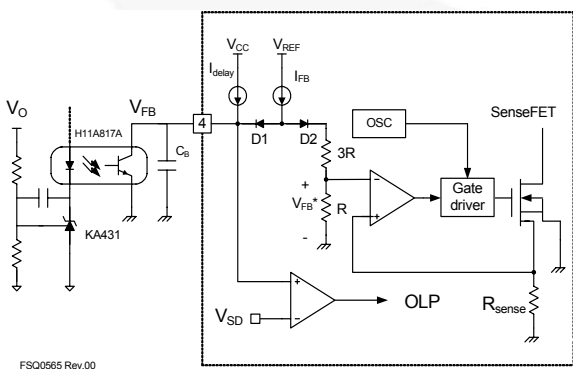

Figure 24. Pulse-Width-Modulation (PWM) Circuit
**2. Feedback Control:** FPS employs current-mode control, as shown in Figure 24. An opto-coupler (such as the FOD817A) and shunt regulator (such as the KA431) are typically used to implement the feedback network. Comparing the feedback voltage with the voltage across the  $R_{sense}$  resistor makes it possible to control the switching duty cycle. When the reference pin voltage of the shunt regulator exceeds the internal reference voltage of 2.5V, the opto-coupler LED current increases, pulling down the feedback voltage and reducing the duty cycle. This typically happens when the input voltage is increased or the output load is decreased.
**2.1 Pulse-by-Pulse Current Limit:** Because current-mode control is employed, the peak current through the SenseFET is limited by the inverting input of PWM comparator ( $V_{FB}^*$ ), as shown in Figure 24. Assuming that the 0.9mA current source flows only through the internal resistor ( $3R + R = 2.8k$ ), the cathode voltage of diode D2 is about 2.5V. Since D1 is blocked when the feedback voltage ( $V_{FB}$ ) exceeds 2.5V, the maximum voltage of the cathode of D2 is clamped at this voltage, clamping  $V_{FB}^*$ . Therefore, the peak value of the current through the SenseFET is limited.